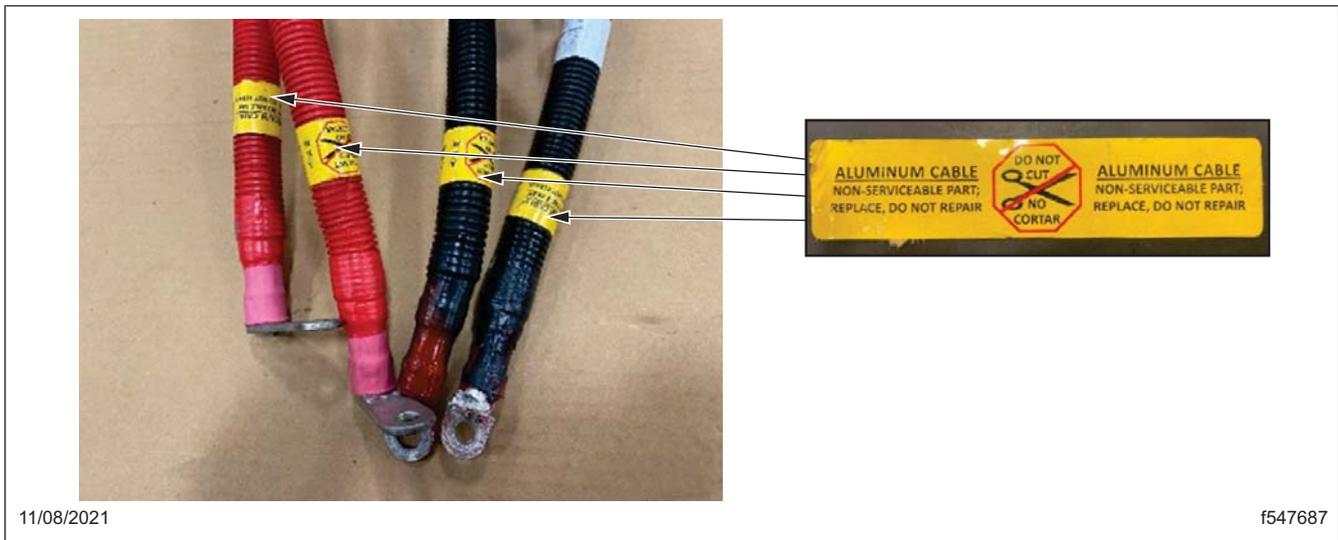

Fig. 7, Powernet Battery Cables Made of Aluminum
- The aluminum 4/0 cables are attached with a yellow label on each end indicating they are made of aluminum. See Fig. 7.